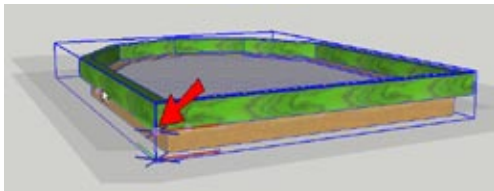

Figure 7-48
10. Define the component origin at the bottom corner of the green frame, because this is where the window will meet the wall. Keep the component's red and green axes in their current directions (Figure 7-48).